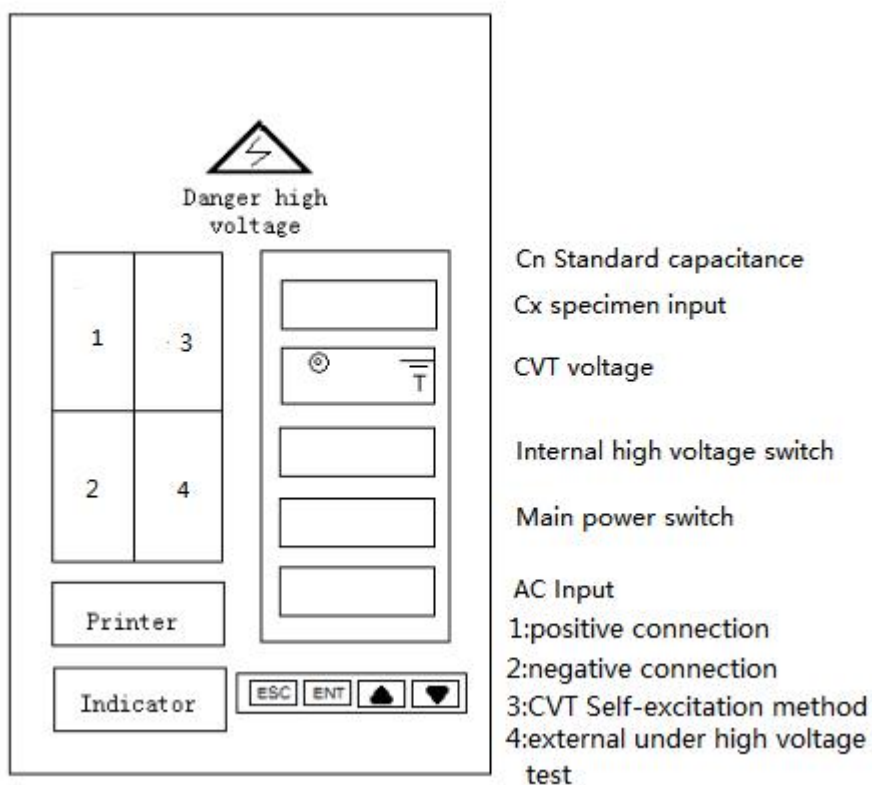
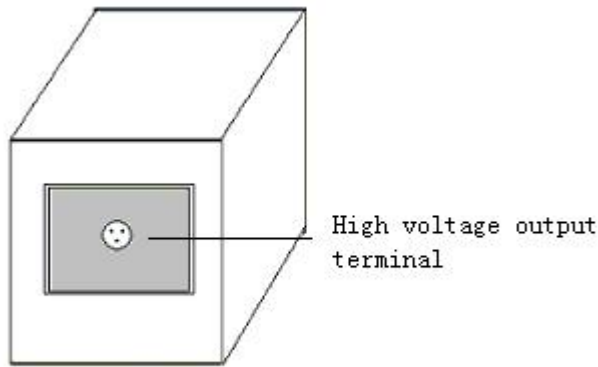

Figure 2
Figure 3
- 1. The diagram for control panel (Figure 2) and high voltage backplane (Figure 3)